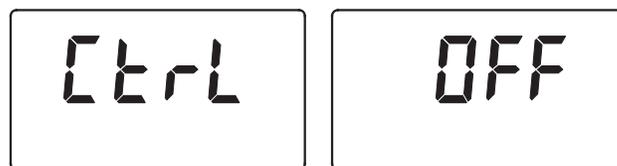

FIG. 26
1. If you completed the previous step, the aspirate time adjust screen should show in the display (See Figure 26). Otherwise, press and hold for 3 seconds the SELECT button, until the display shows "000 - -", then press the SELECT button twice to display the aspirate time adjust screen.